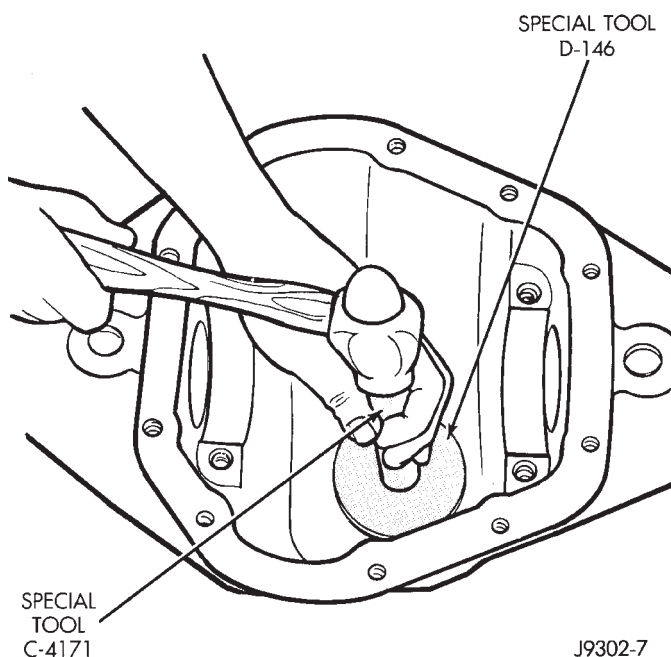

Fig. 51 Pinion Rear Bearing Cup Installation
(1) Place the needed shim pack thickness in the pinion gear rear bearing bore (service only). Install the bearing cup with Installer D-146 and Driver Handle C-4171 (Fig. 51). Ensure cup is correctly seated.